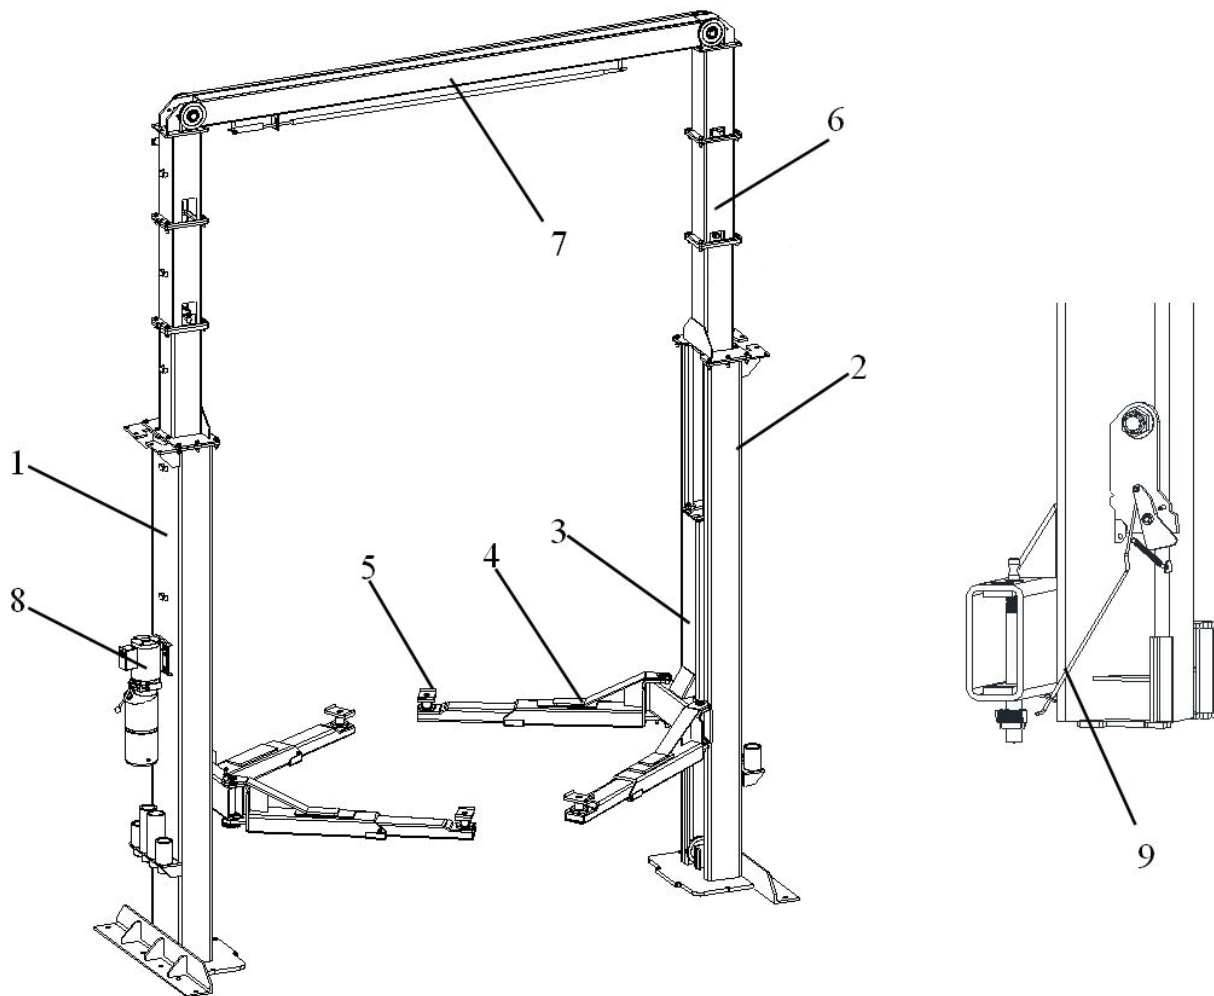

Figure 2 – Lift
Lift Description (Ref. Figure 2)
As shown in figure 2, the lift is composed of two columns: power-side column (1) and off-side column (2), each equipped with a carriage (3) and a pair of lifting arms (4) with the adaptor (5) anchored to the ground by means of the column base.